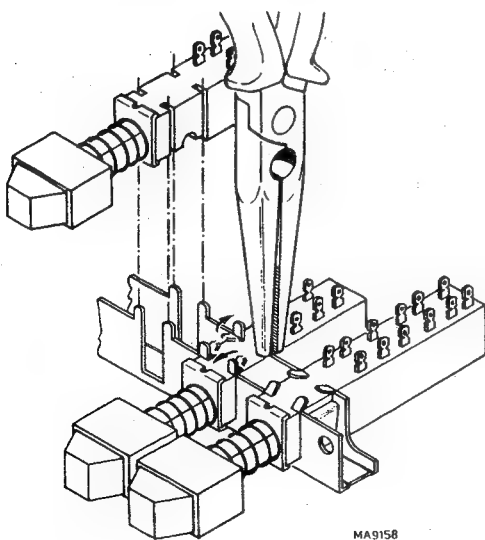

Fig. 9.6. Replacing a switch-segment of a push-button set
To remove a pushbutton switch, the hexagon screws that secure it to the front panel must be removed. To replace one switch-section of a push-button set, refer to fig. 9.6.
- Straighten the 4 retaining lugs of the relevant switch as shown in fig. 9.6.